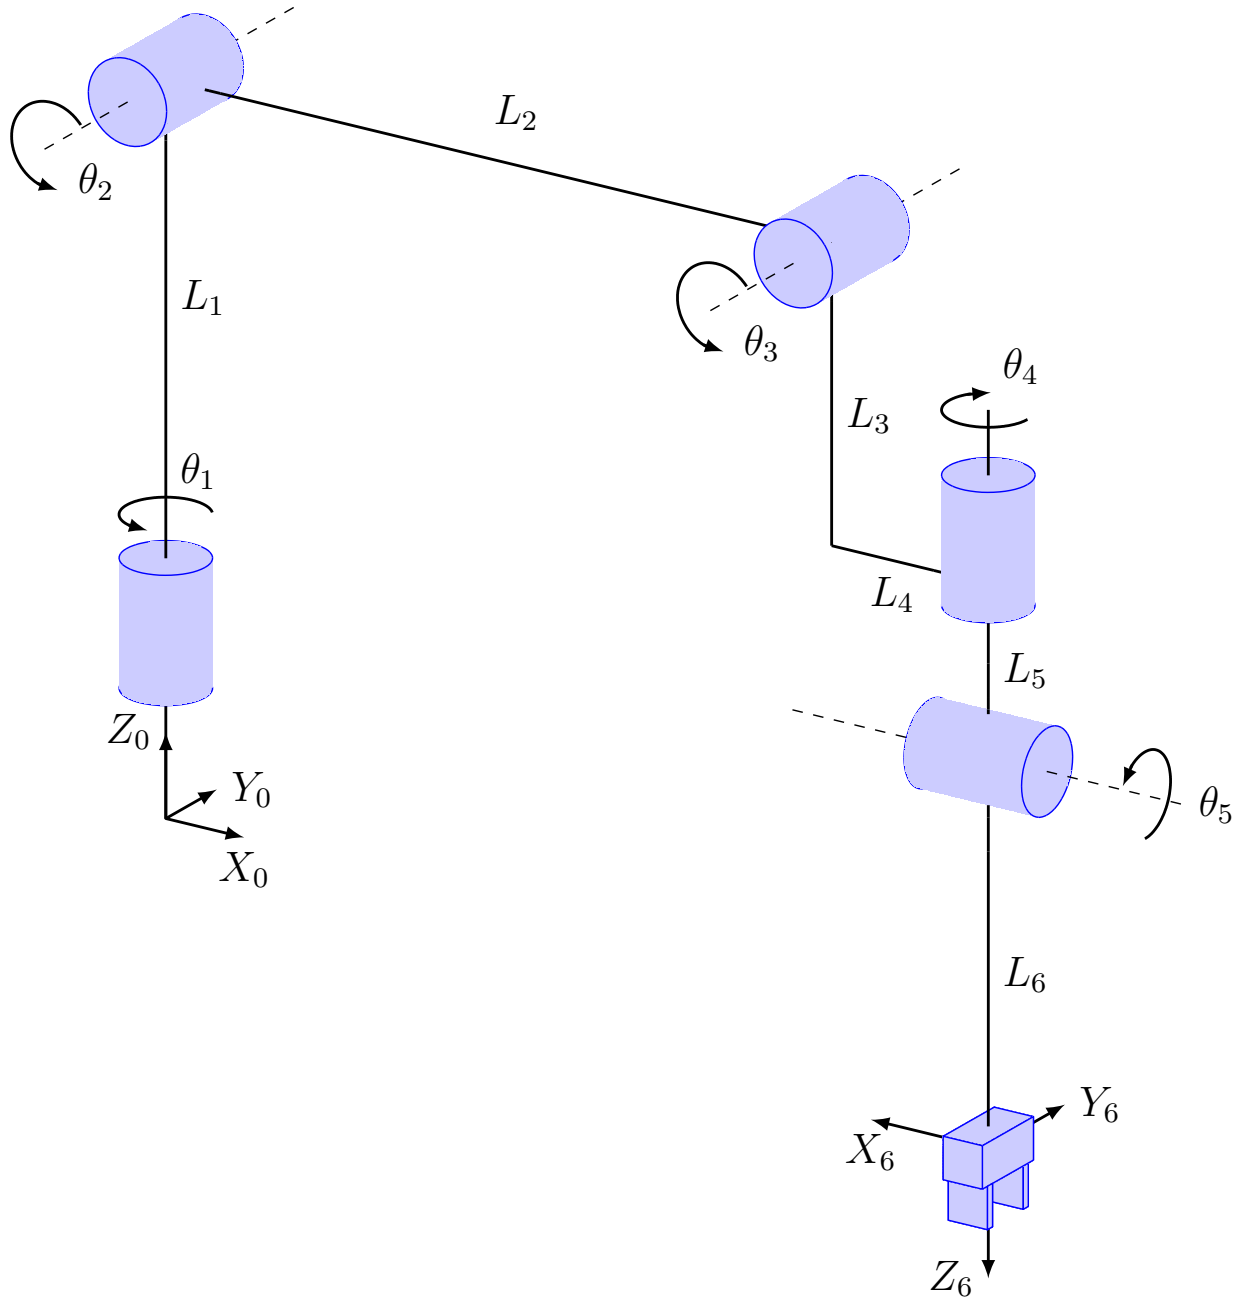

Figure 2: Schematic of the AX-18A SMART ROBOTIC ARM.
- (a) Determine the Denavit-Hartenberg (DH) Parameters for the AX-18A SMART ROBOTIC ARM (in Fig. 2) using the following parameters: